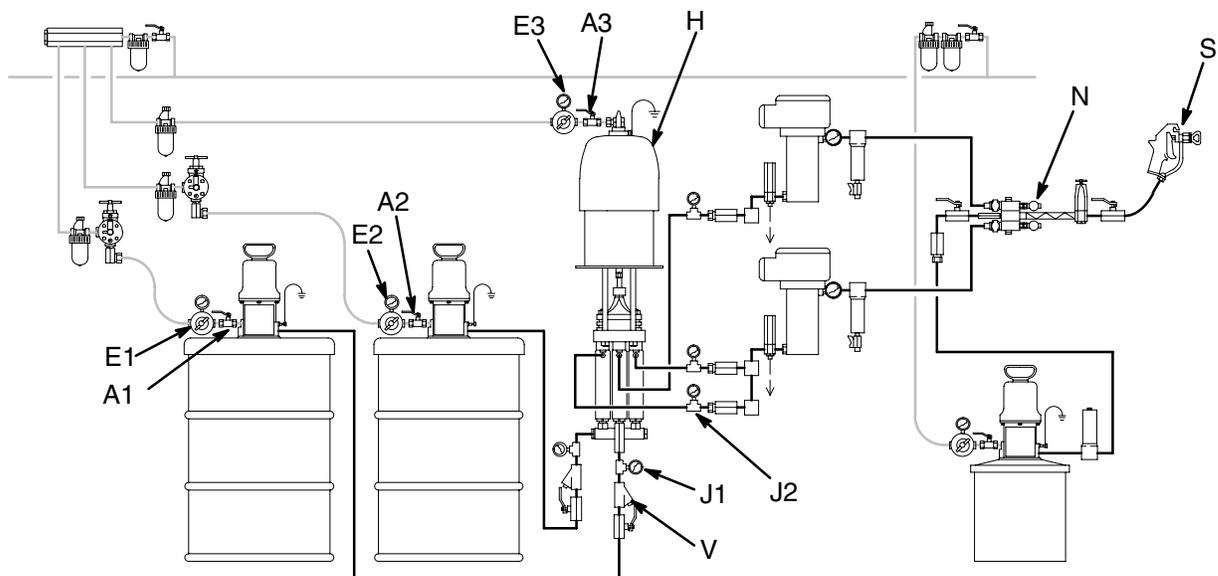

Fig. 17
If the fluid pressure from the feed pump to the proportioning pump cannot be maintained on the proportioning pump intake gauge (J1), check and clean the strainer (V). See Fig. 17, page 21.